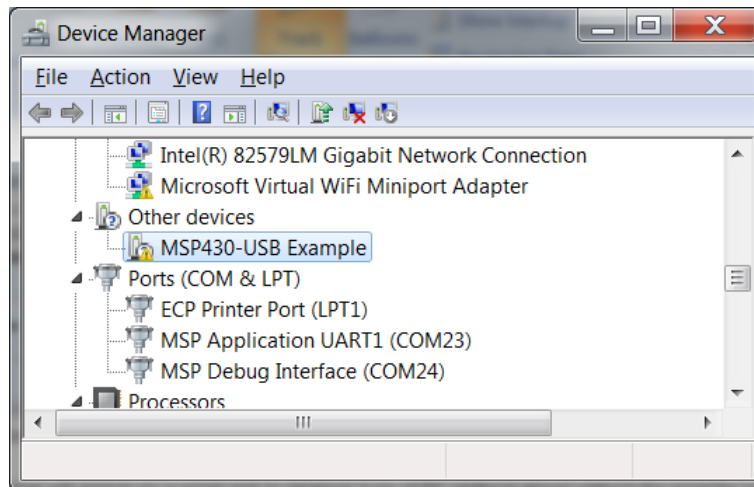

图 24. Device Manager Showing CDC Driver Not Installed
1. To install the INF file, launch the Device Manager. The USB CDC examples appear in the Device Manager as *MSP430-USB Example*. If a driver is not properly installed, it appears with a yellow exclamation point on its icon, sometimes referred to as a *yellow bang*. Right-click on that item (see 图 24).